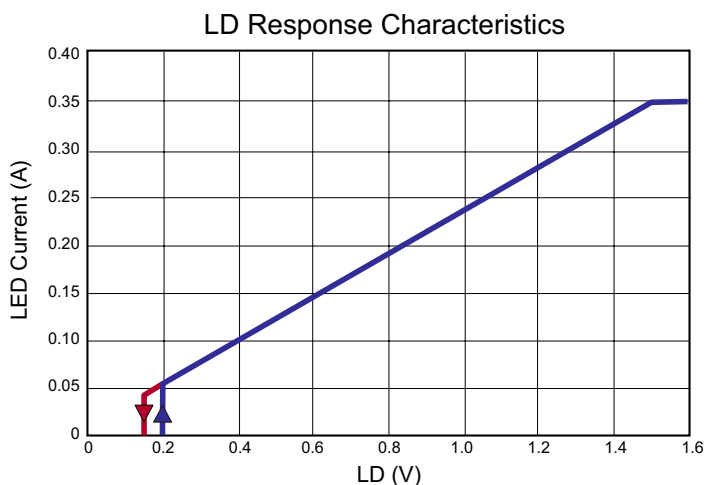

Fig.3. Typical linear dimming response of an HV9861A LED driver
When the voltage at LD falls below $1.5V$, the internal $270mV$ reference to the constant-current feedback becomes overridden by $V_{LD} \cdot 0.18$. As long as the current in the inductor remains continuous, the LED current is given by the equation (3) above. However, when V_{LD} falls below $150mV$, the GATE output becomes disabled. The GATE signal recovers, when V_{LD} exceeds $200mV$. This is required in some applications to be able to shut the LED lamp off with the same signal input that controls the brightness. The typical linear dimming response is shown in Fig.3.